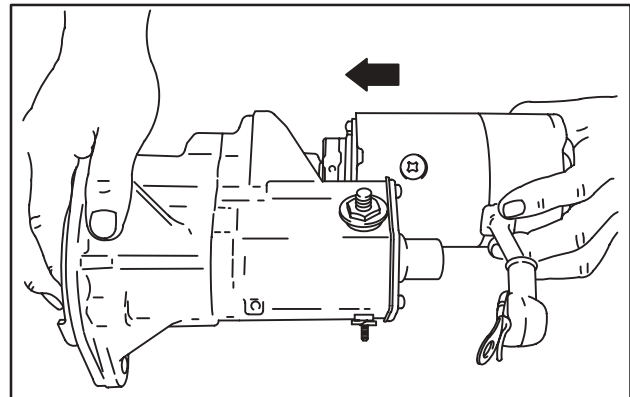

Fig. 61 – Installing Starter Motor
3. Assemble starter motor to drive housing. Align tab on starter with notch in drive housing, Fig. 61.